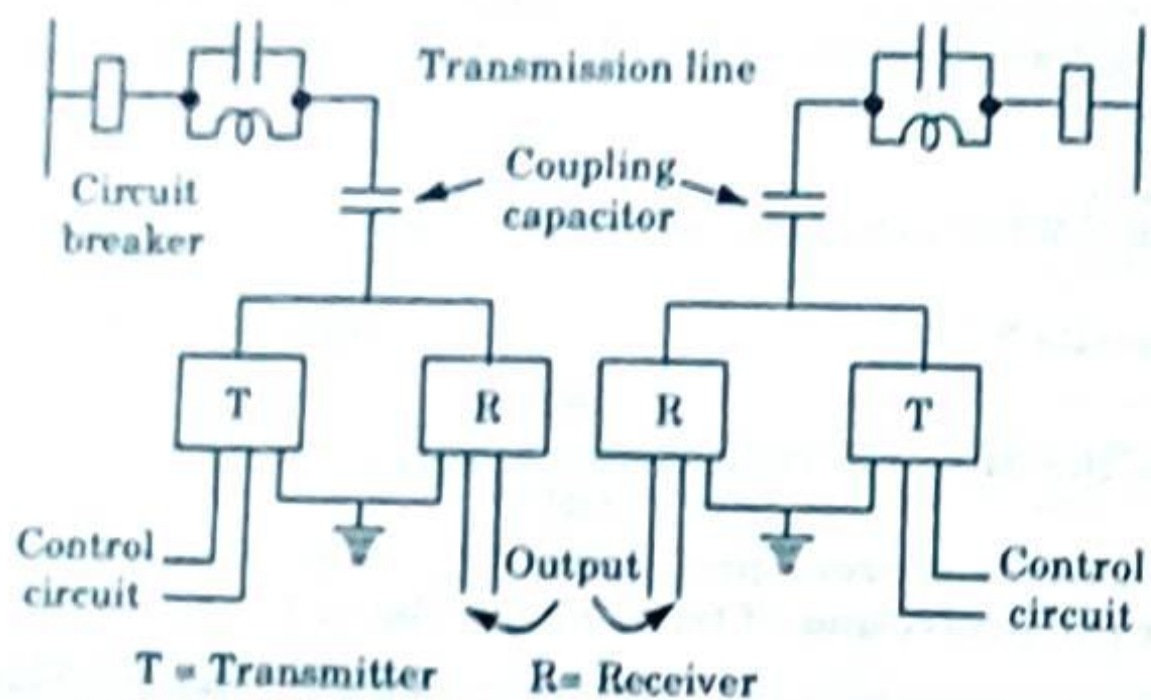

Fig. 3.20.1. Schematic of carrier current protection.
- Line traps shown in Fig. 3.20.1 are parallel resonant circuits having negligible impedance to power frequency current, but very high impedance to carrier frequency currents.